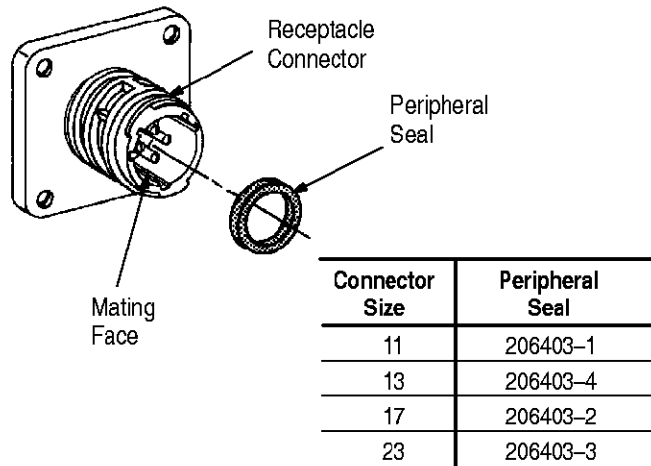

Figure 8
1. Refer to Figure 8 and select the appropriate peripheral seal according to the connector size.